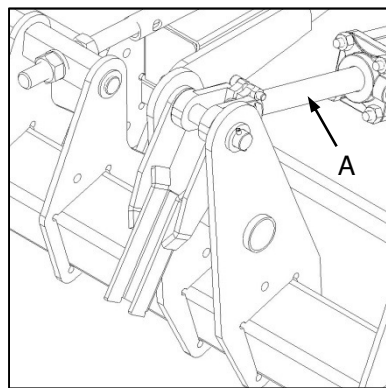

Fig. 1
- ✔ The main transport lock may only be engaged if the main hydraulic cylinder is fully extended, indicating that the implement is at its maximum height (Fig. 1-A).